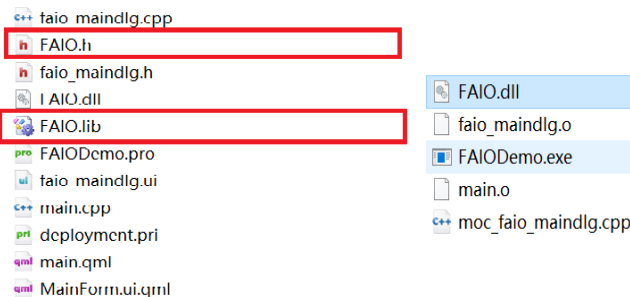

Figure 2.3.1 FAIO library files in various directories
- ① Copy FAIO.h and FAIO.lib to the directory where the project file (as shown in Figure 2.3.1 for FAIODemo.pro) is located, and copy FAIO.dll to the directory where the executable program (as shown in Figure 2.3.1 for FAIODemo.exe) is located.